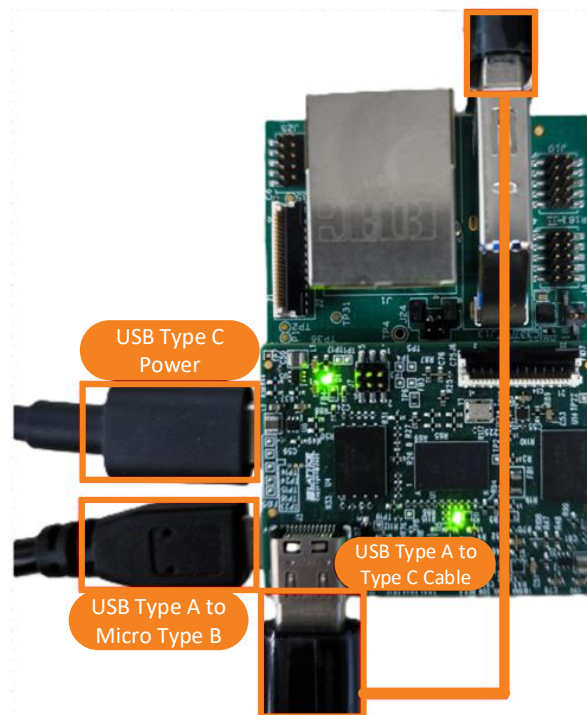

Figure 6.1. Hardware Connections for Firmware Update
1. Connect the USB Type C to Type A cable from USB Type C connector (J3) on the CrossLinkU-NX SoM HW board to USB Type A connector (J13) on the carrier board. This connects RPi CM5's USB to CrossLinkU-NX SoM as shown in Figure 6.1.